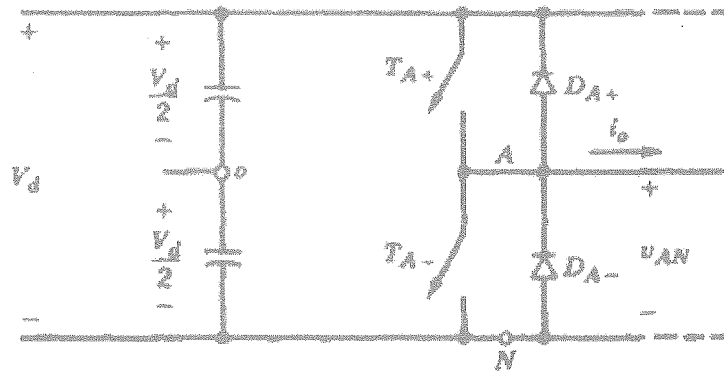

Figure Q3: Switch-mode Inverter
- b) A general analysis of the switch-mode inverter shown in Figure Q3 is to be done. The switching frequency f_s , which is also the frequency of the triangular signal is 1450 Hz. The DC voltage V_d is 600 V. Output voltage is a sinusoidal voltage with a frequency f_1 of 50 Hz. The load is connected between the inverter leg A and the dc voltage midpoint O. Table Q3 gives the harmonics of the switch-mode inverter.